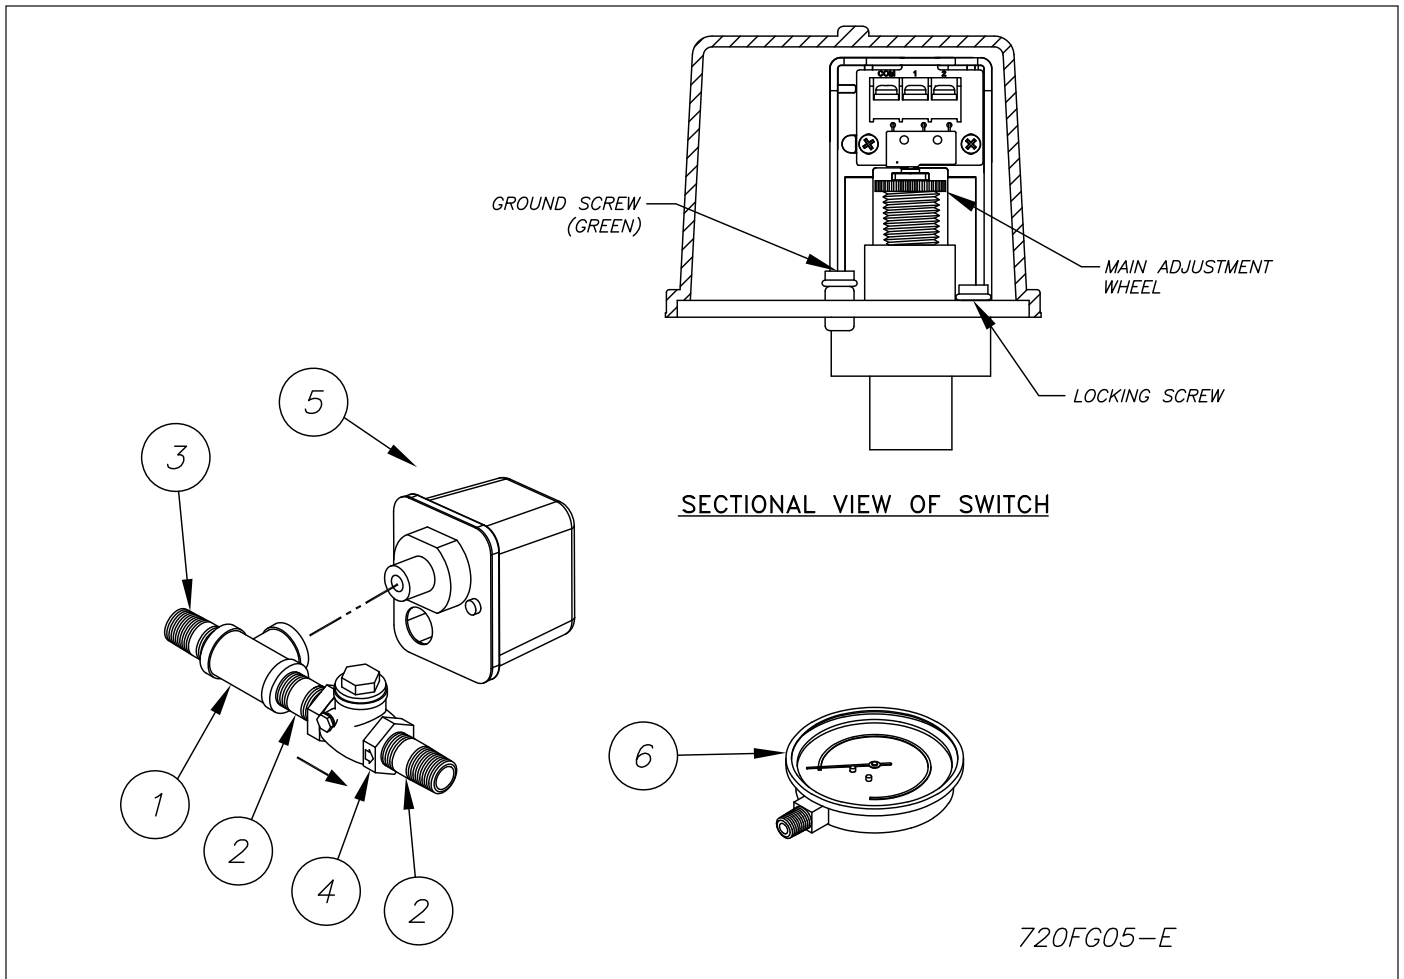

Figure 5 - Double Interlock Switch/Gauge Trim Kit
Adjusting system pressure to approximately 10 psi (0.7 bar) is accomplished by referring to Reliable Bulletin 254 for adjustment procedure. The low pneumatic pressure supervisory switch (Item 5, Figure 5) is factory set to operate between 8 and 4 psi (0.55 and 0.28 bar) with decreasing pressure. Adjustment, if required, should be made according to Bulletin A05-0176 included with the switch.
Connect the Common (C) and Normally Closed (NC) terminals of the system low pressure switch (Figure 5) to initiating Zone 2 as shown in Figure 2 or 3. Switch contacts must be in the open position when the system is pneumatically pressurized to 10 psi (0.5 bar). Install fire detection devices to initiating Zone 1 as shown in Figure 2 or 3.
3. The Double Interlock Switch/Gauge Trim Kit (P/N 6501200110 or P/N 6501200119), illustrated in Figure 5, consists of items 1 through 6. Assemble the kit using a suitable PTFE - based pipe thread sealant applied to each male thread.
The pressure switch is factory adjusted for operation between 8 to 4 psi (0.55 to 0.28 bar). If field adjustment is required or the lowest possible setting (4 psi or 0.28 bar) is desired, refer to Figure 5 and proceed as follows: